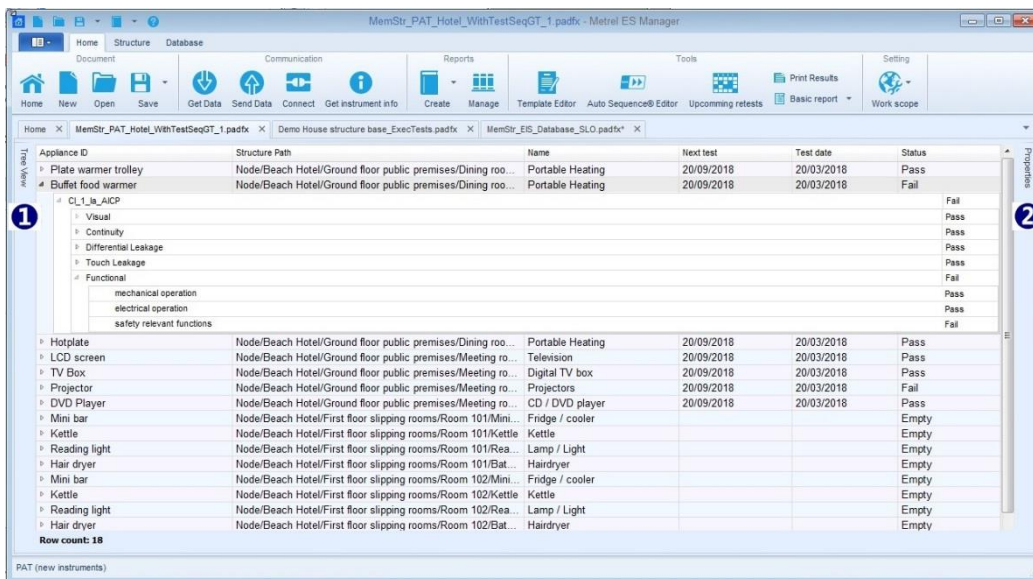

Figure 6.14: User workspace with undocked and hidden Tree view and Properties window
- **Undock and Hide Tree view and Properties window:** apply left click on the pin button (📌) located in the left top corner of the window to undock window. Narrow vertical strip with window name appear on the screen edge, Tree view strip on the left, Properties strip on the right side, see (❶) and (❷) on **Figure 6.14**. Consecutive clicks on window strip in the name area hide or unhide the window. To dock windows again, click on pin button (📌).